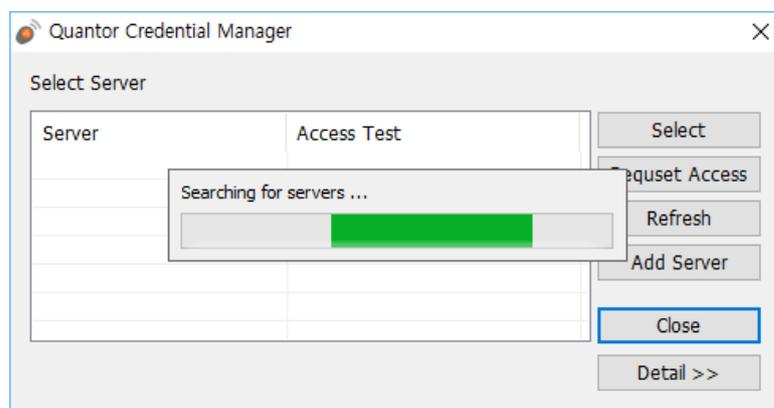

Figure 2.18 Quantor Credential Manager
1. The Quantor Credential Manager (QCM) window shown in Figure 2.18 is automatically opened during the installation process. Run "QCM.exe" in the installation folder if you need this process due to a change of server while using the product. The program automatically searches the server when it is started.